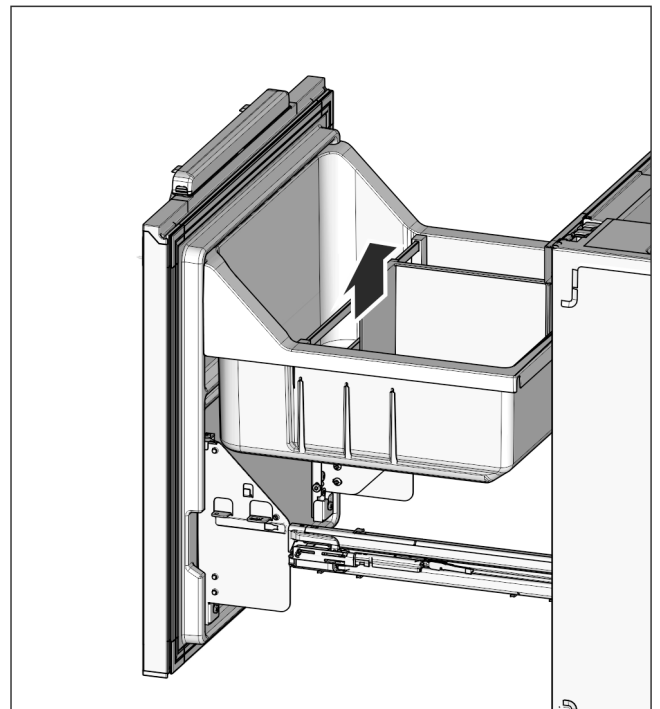

Fig. 25
- ▶ Replace the bottle rack Fig. 25 (32) and pull-out compartment Fig. 25 (31).